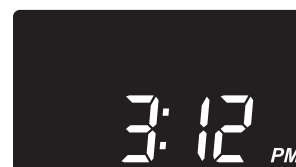

FIG. 23
4. When finished setting the salt level, press the SELECT button. The display returns to the normal time of day screen (Fig. 23).